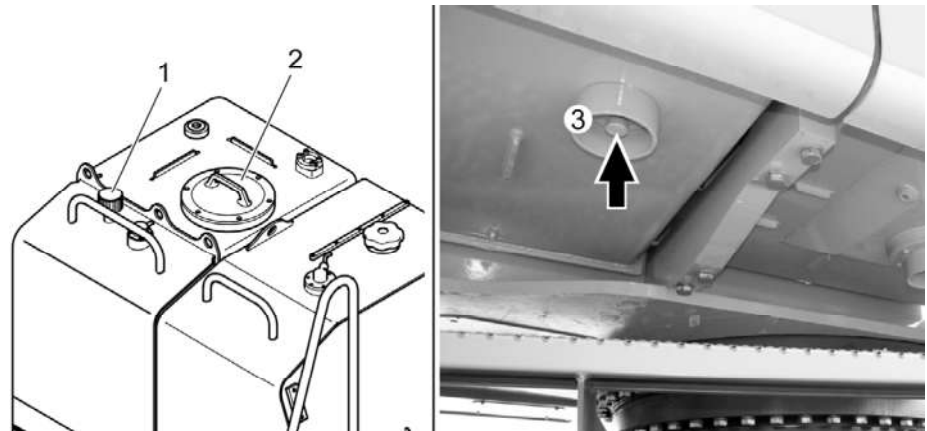

Fig. 5-43 Draining and refilling the hydraulic oil
- Keep the drain hose attached to drain valves **3** (see Fig. 5-43) until the oil which flows out does not contain any water.